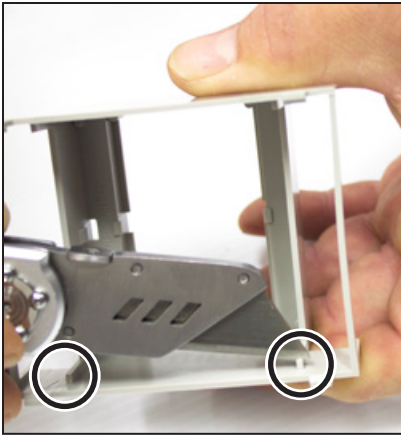

Figure 1
1. Using a razor blade, trim the Enclosure 1/16 inch at the locations indicated in **Figure 1**.